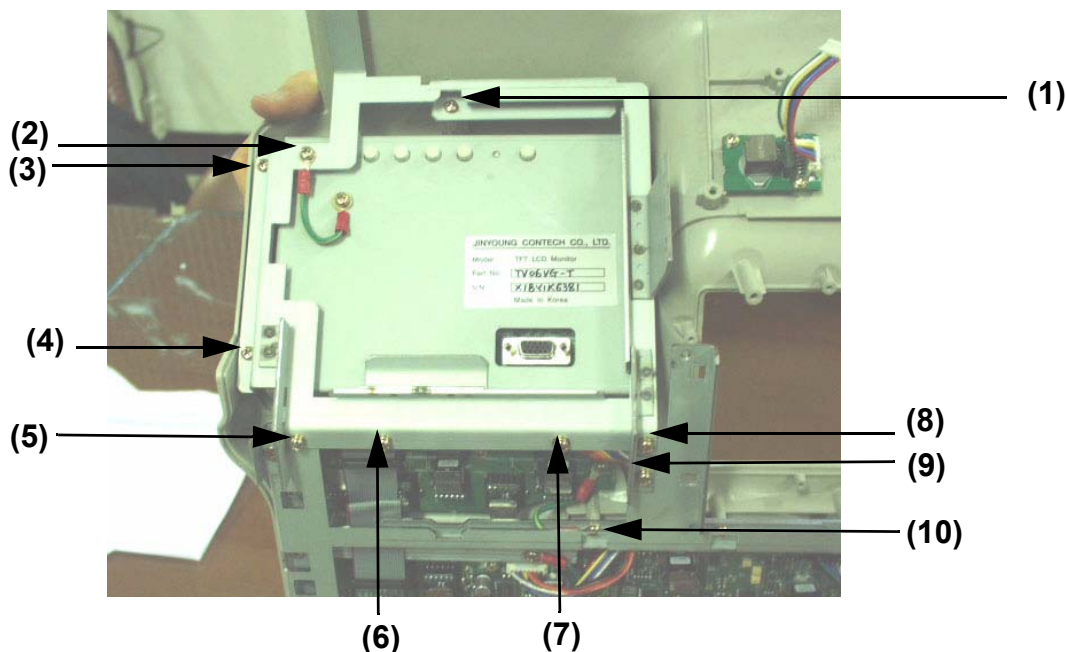

Figure 8-42 Unscrew 10 screws from the LCD brkt
- 1.) Unscrew ten screws (1-10) from the LCD prefix bracket to remove it. Refer to section Figure 8-42 on page 29.